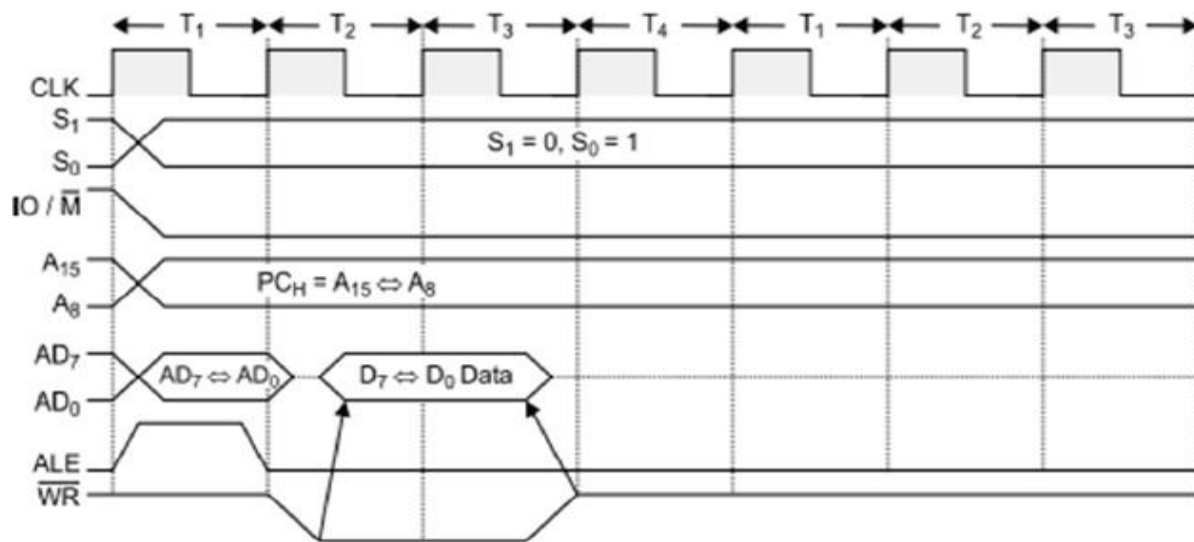

Fig 12.Memory Write timing diagram
- During T2, ALE goes low, WR (bar) goes low and Address is removed from AD0-AD7 and then data appears on AD0-AD7 as in fig 12.